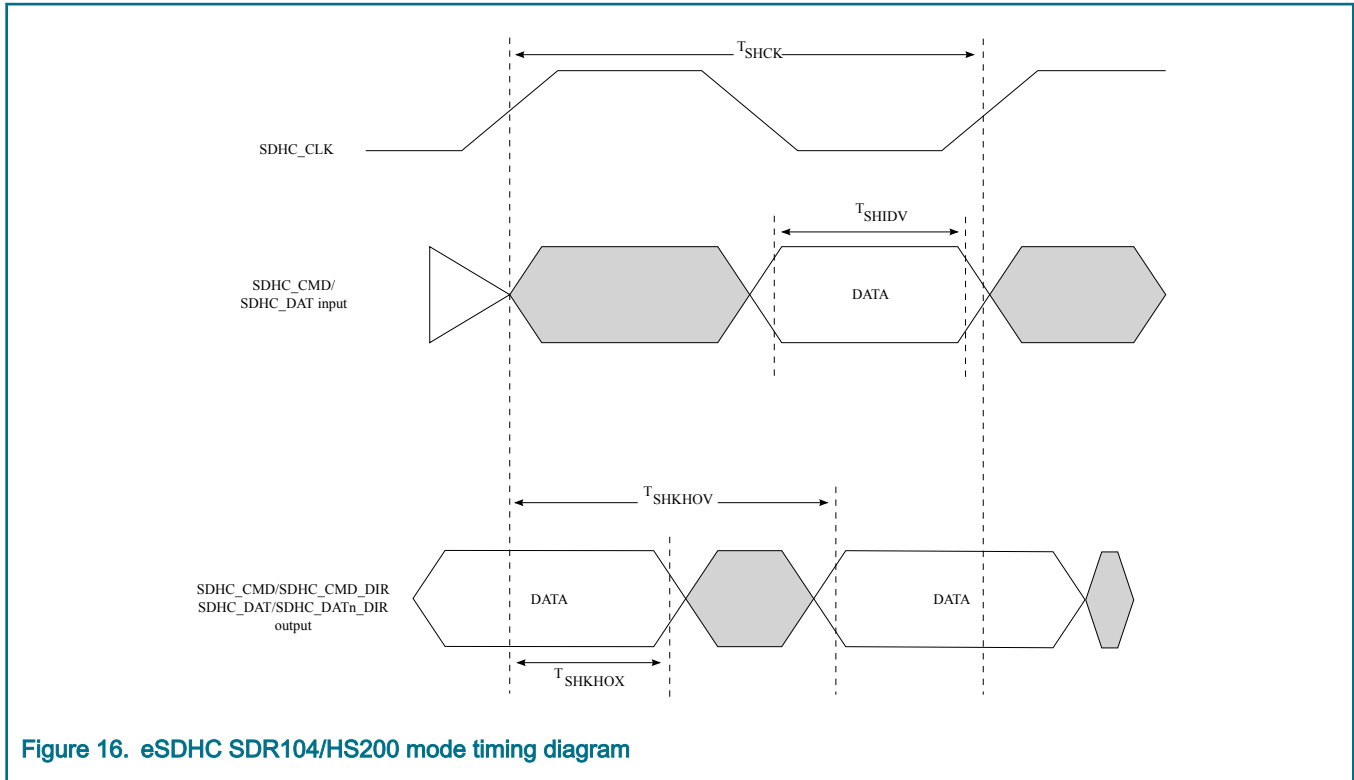
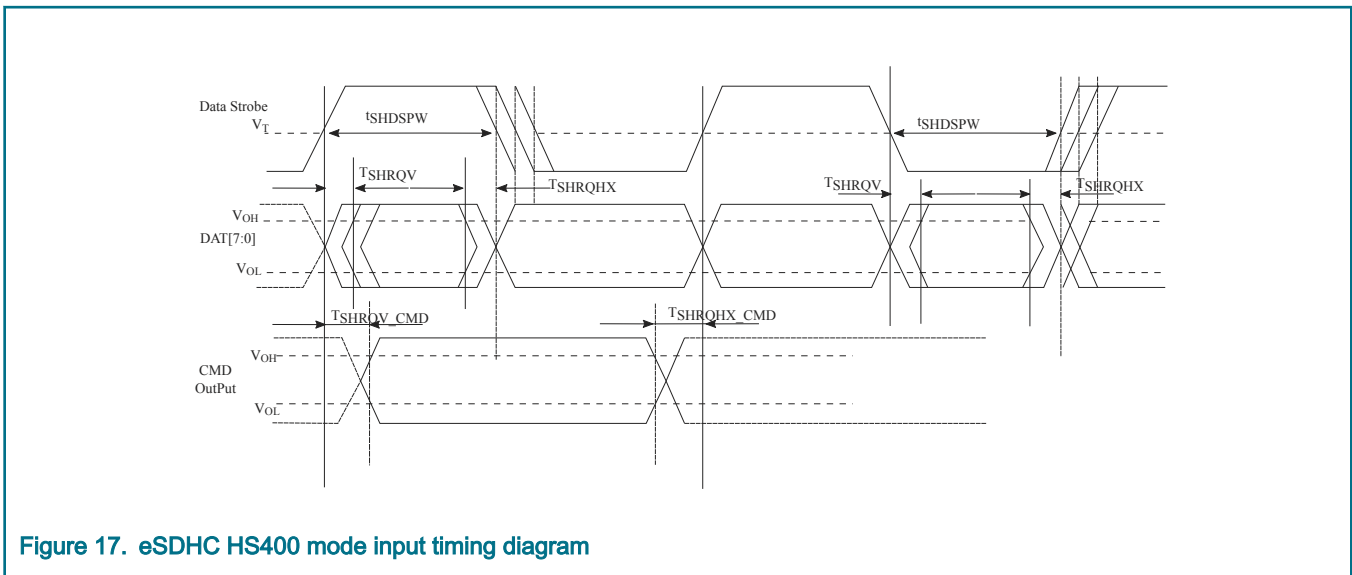

Figure 16. eSDHC SDR104/HS200 mode timing diagram
Figure 17. eSDHC HS400 mode input timing diagram
2. The symbols used for timing specifications herein follow the pattern of t_{(first two letters of functional block)(signal)(state) (reference)(state)} for inputs and t_{(first two letters of functional block)(reference)(state)(signal)(state)} for outputs. For example, t_{SHKH0X} symbolizes eSDHC highspeed mode device timing (SH) clock reference (K) going to the high (H) state, with respect to the output (O) reaching the invalid state (X) or output hold time. Note that in general, the clock reference symbol is based on five letters representing the clock of a particular functional. For rise and fall times, the latter convention is used with the appropriate letter: R (rise) or F (fall).
3. See Figure 16.
<p>1. $C_L = C_{BUS} + C_{HOST} + C_{CARD} \leq 15pF$.</p> <p>2. The symbols used for timing specifications herein follow the pattern of $t_{(first\ two\ letters\ of\ functional\ block)(signal)(state)\ (reference)(state)}$ for inputs and $t_{(first\ two\ letters\ of\ functional\ block)(reference)(state)(signal)(state)}$ for outputs. For example, t_{SHKH0X} symbolizes eSDHC highspeed mode device timing (SH) clock reference (K) going to the high (H) state, with respect to the output (O) reaching the invalid state (X) or output hold time. Note that in general, the clock reference symbol is based on five letters representing the clock of a particular functional. For rise and fall times, the latter convention is used with the appropriate letter: R (rise) or F (fall).</p> <p>3. See Figure 17.</p> <p>4. See Figure 18.</p> <p>5. For HS400 without enhanced strobe (DQS) command, see Figure 16.</p>